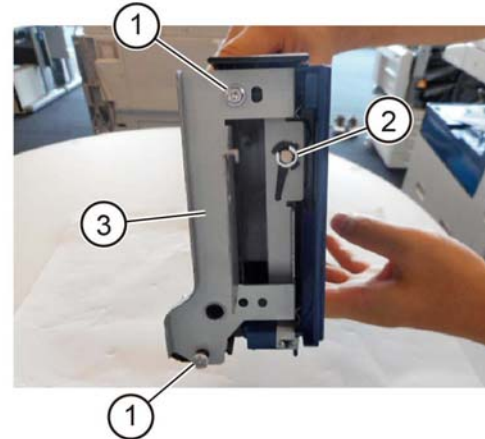

Figure 6 Front bracket removal
12. Remove the front bracket, Figure 6:
- a. Remove two screws (1).
- b. Remove the E-clip (2).
- c. Remove the front bracket (3).